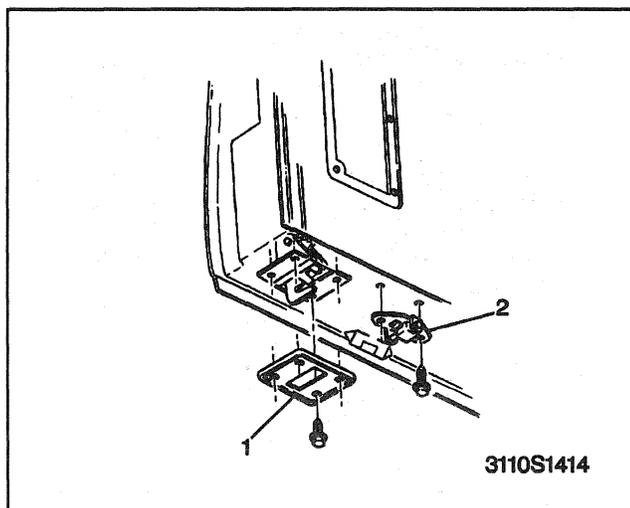

Figure 93—Lower Latch and Bumper
5. Control latch bolts and spacer (Figure 93).
6. Control latch from door (Figure 93).
1. Control latch to door (Figure 93).
2. Control latch spacer and bolts (Figure 93).
↔↔ Remove or Disconnect (Figure 93)
↔↔ Install or Connect (Figure 93)